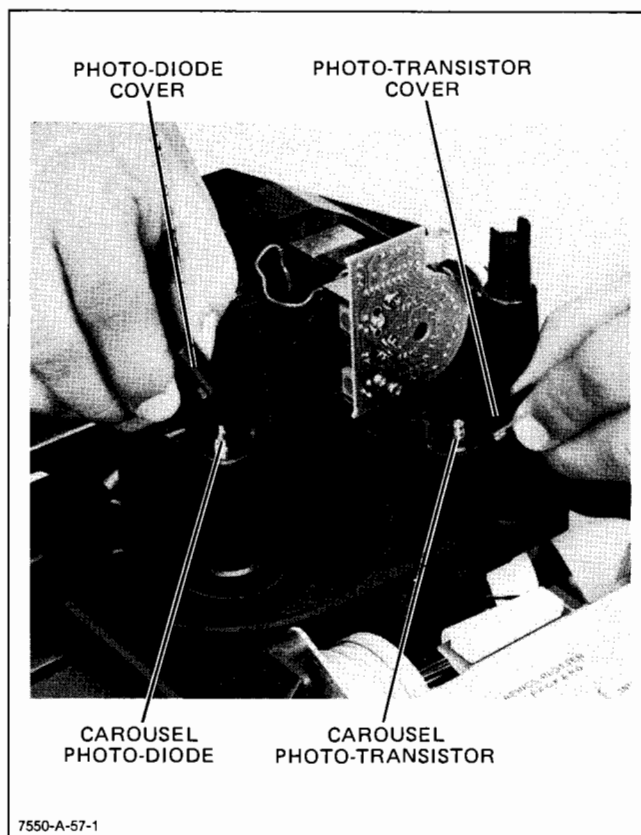

Figure 6-17. Carousel Sensors Removal
- c. To access the carousel photodiode, carefully pull the photodiode cover straight up off of the carousel base spindle. See Figure 6-17. Note the position of the node on the photodiode for reassembly and carefully pull the photodiode from its connector.
- d. To access the carousel phototransistor, carefully pull the phototransistor cover straight up off of the carousel base tower. See Figure 6-17. Note the position of the flat side of the phototransistor for reassembly and carefully pull the phototransistor from its connector.